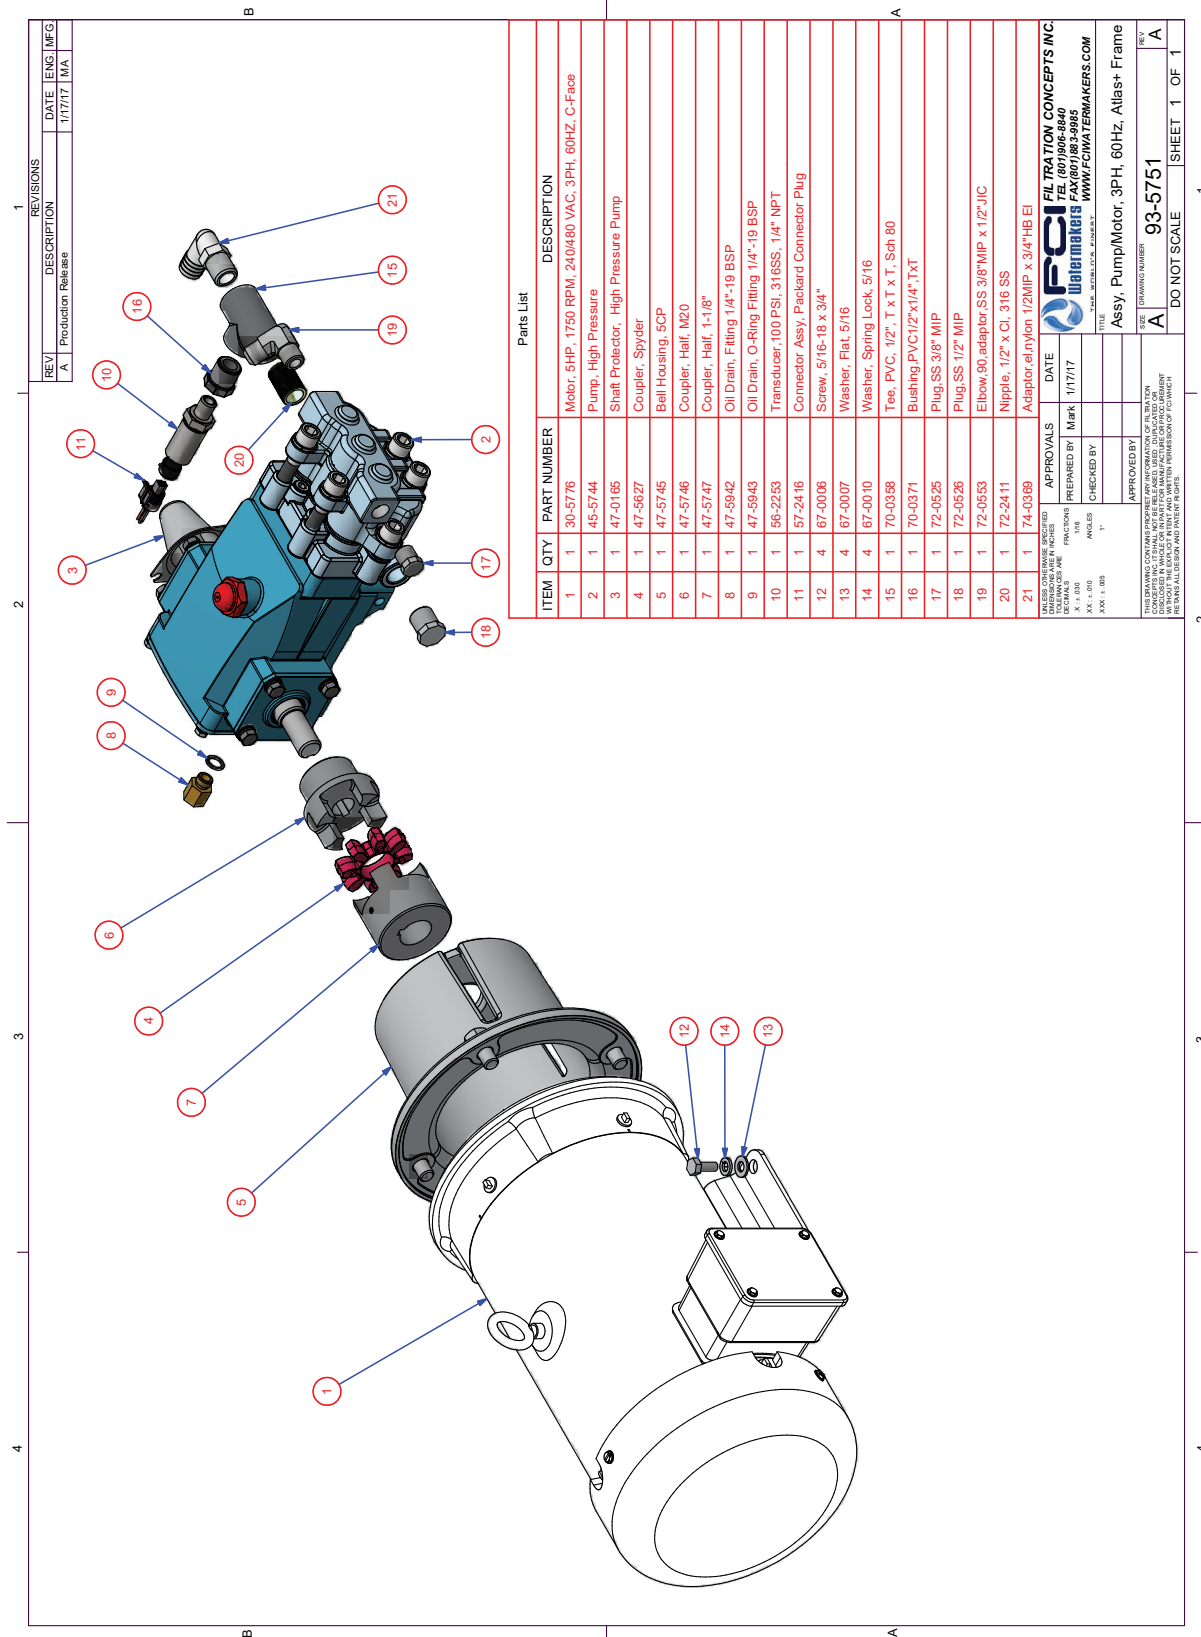

Figure 29: High Pressure Pump Assembly Drawing (60 Hz)
- "Figure 29: High Pressure Pump Assembly Drawing (60 Hz)" on page 118